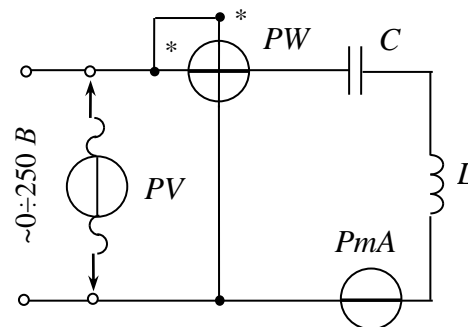

Fig. 4.6
1. Collect the circuit (fig. 4.6) and connect it to the clamps $< \sim >$ $< 0 \div 250V >$. Place *LATR* switch in position $< \sim >$, $0 \div 250V$.
The name and purpose of the work. Homework – the calculation of the circuit. Schematic diagram of the investigated circuit (fig 4.6). Tables 4.2, 4.3. The substitutional schemes of coil and capacitor and calculations of their parameters. The vector diagrams. Conclusions.